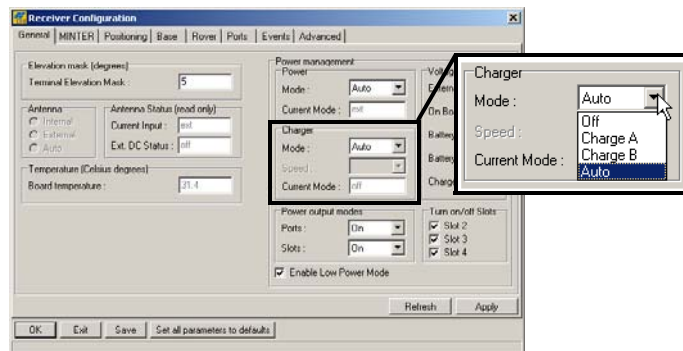

Figure 2-3. Select Charger Mode
4. Select the *Charger Mode* drop-down list to set the desired charger mode (Figure 2-3). *Current Mode* displays the charging battery: a, b, or none (off).